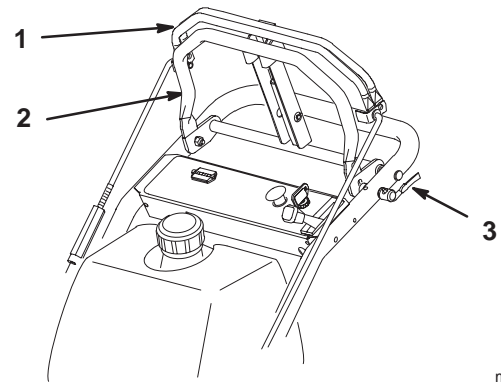

Figure 14
1. Place the quick release levers in the unlock position (Fig. 14).
3. Place the quick release levers in the lock position (Fig. 14).
1. To go forward, slowly press on the upper control bar against the reference bar (Fig. 14).
2. To go straight, apply equal pressure to both ends of the upper control bar (Fig. 14).
3. To turn, release pressure on the upper control bar side toward the direction you want to turn (Fig. 14).
4. Adjust reference bar to maintain a comfortable pre-set ground speed (Fig. 14).
5. To stop, release the upper control bar to stop both wheels (Fig. 14).
1. To go backward, slowly pull the upper control bar rearward (Fig. 14).
3. To turn, release pressure on the upper control bar side away from the direction you want to turn (Fig. 14).
4. To stop, release the upper control bar to stop both wheels (Fig. 14).
1. To stop, release the upper control bar to stop both wheels (Fig. 14).